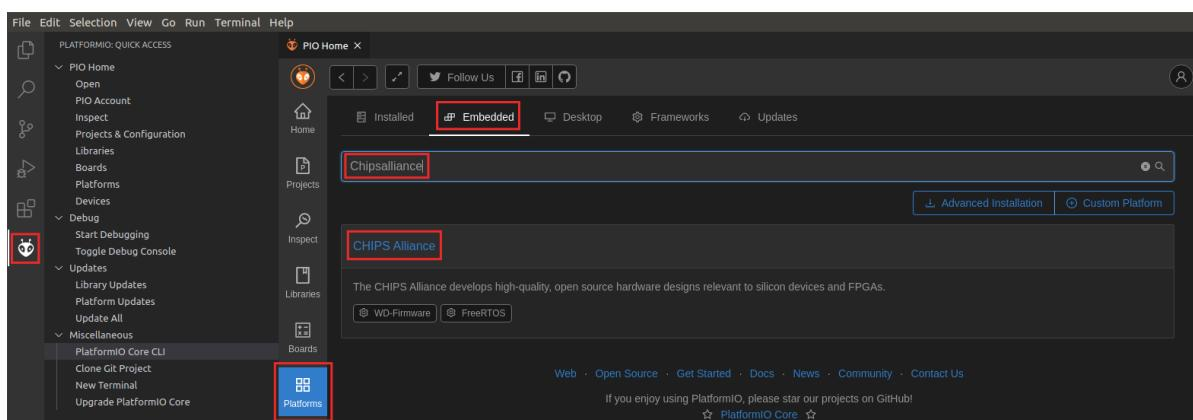

Figure 41. Selecting the CHIPS Alliance Platform
- View the Quick Access menu by clicking on the  button, located in the left side bar (see Figure 41). Then, in the PIO Home, click on the  button and then on the  tab (Figure 41). Look for **Chipsalliance** (the platform that we use in RVfpga) and open it by clicking on the  button (Figure 41).